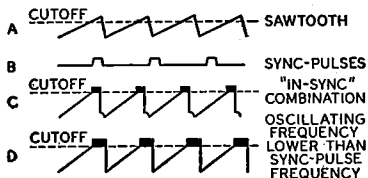

Fig. 102—Sawtooth and sync pulses in synchroguide circuit.
$V_1$ . The waveforms shown in Fig. 102 illustrate the sawtooth and sync pulses (A and B) and their proper "in-sync" combination (C) and their proper "in-sync" combination (D).
For example, waveform D in Fig. 102 illustrates a condition in which the sawtooth voltage is advanced in phase with respect to the sync pulses. The widening of the pulse which occurs at the corner of the sawtooth waveform allows the control tube to conduct more current and, consequently, allows the capacitor  $C_1$  to charge to a higher voltage. This increased reference voltage also appears in the grid circuit of  $V_2$  and makes the grid more positive. The increased grid voltage then speeds up the frequency of oscillations until proper synchronization results.